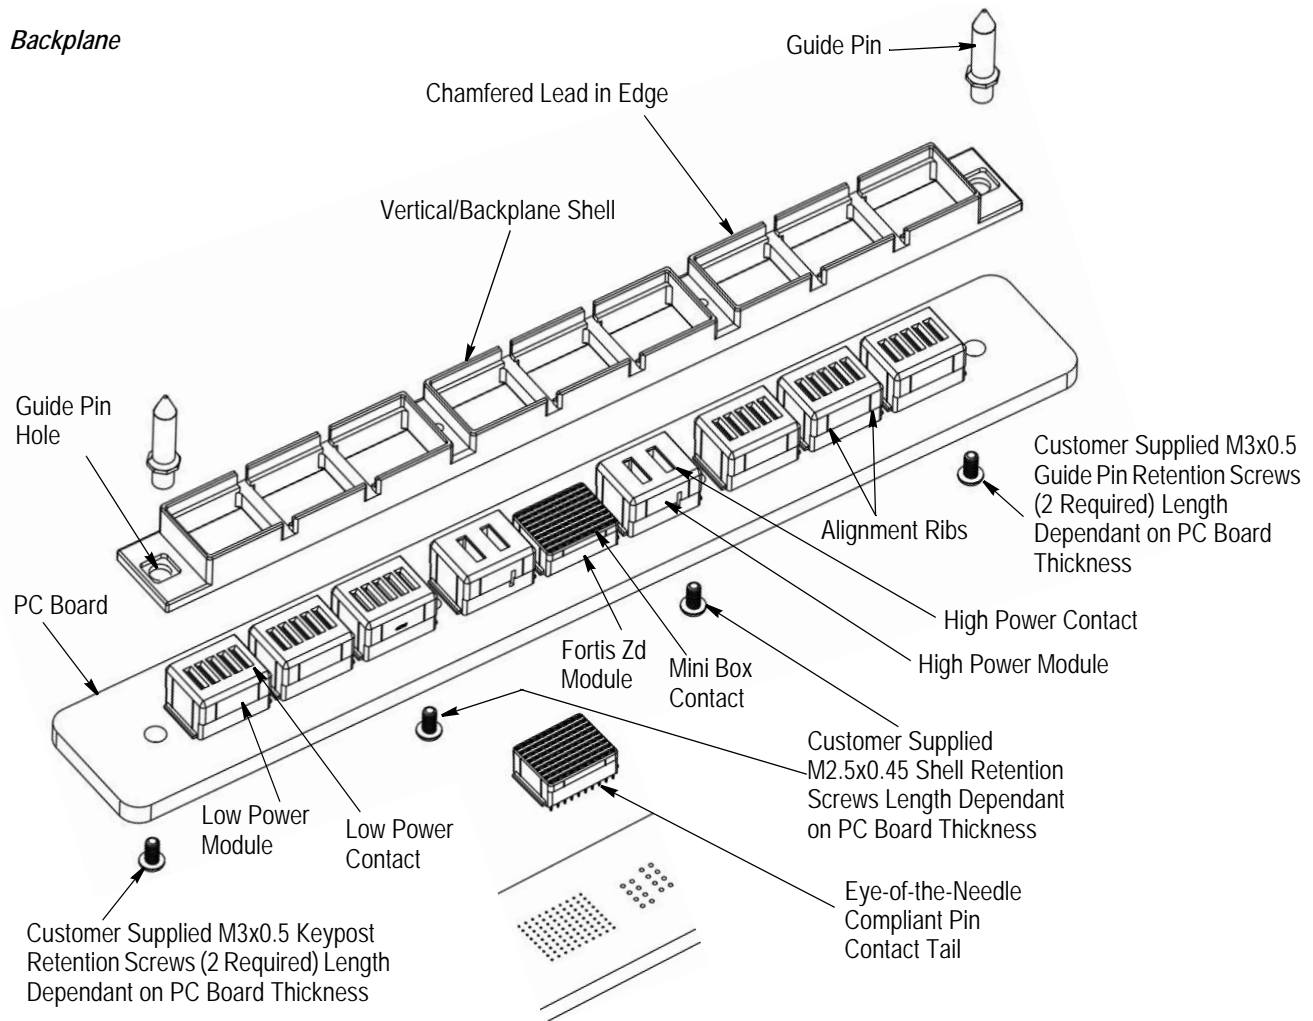

Figure 2
3.2. Backplane Connector Kit (Refer to Figure 2)